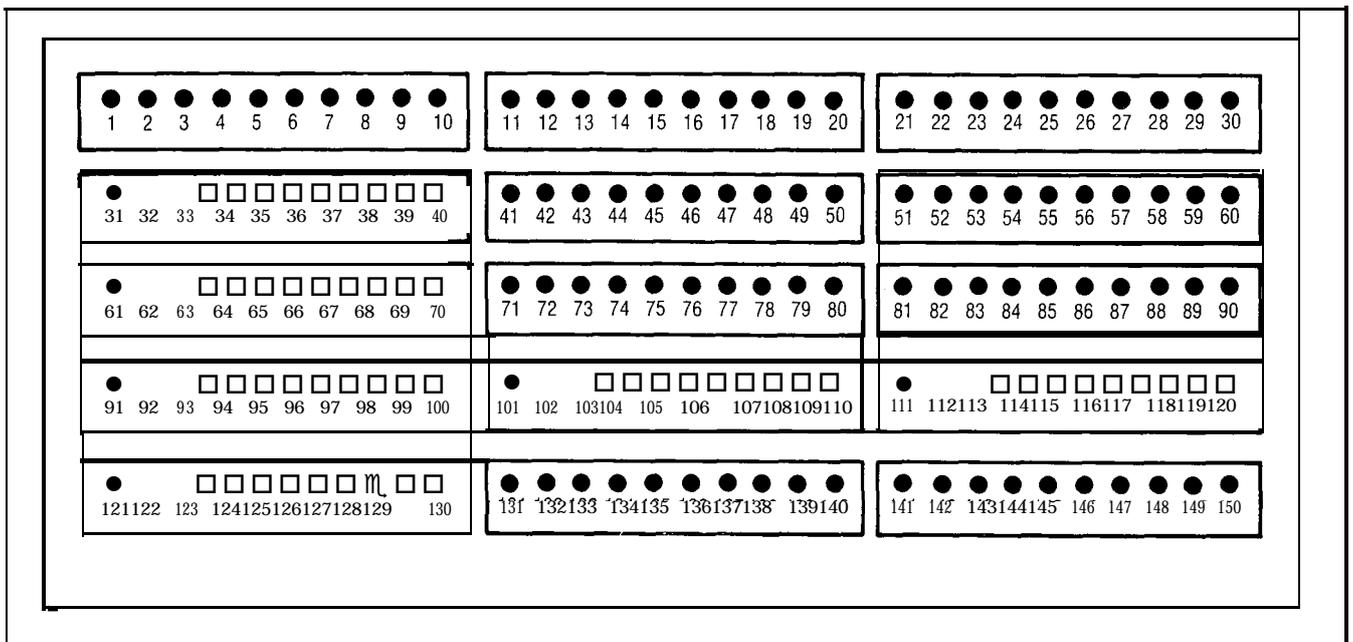

Fig. 2-2 Busy Lamp Position Numbering
- **BUSY LAMP NUMBER** After pressing this key the number entered (1-150) defines the position (Fig. 2-2) of the busy lamp to be associated with the extension. If the extension is not to be assigned a busy lamp, no entry is required.
- **BUSY LAMP NUMBER** The number (1-150) defines the position (Fig. 2-2) of the busy lamp to be associated with this trunk. If the trunk is not to be assigned a busy lamp no entry is required.